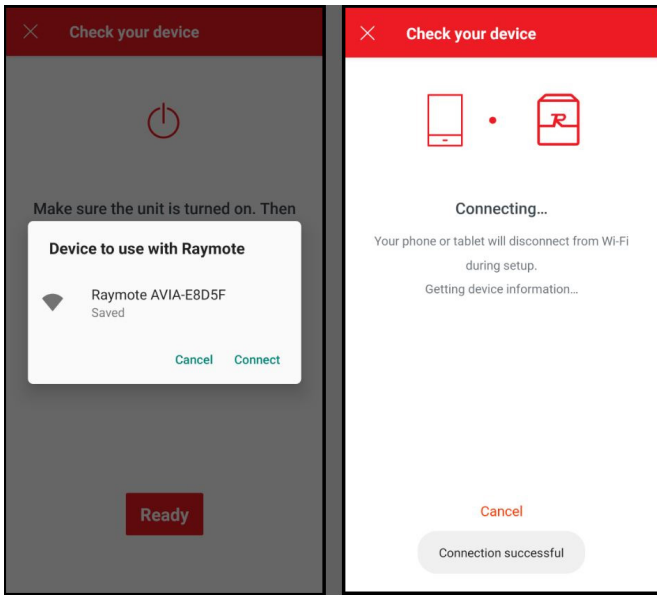

Figure 84. Connecting
- You may be prompted to confirm selected heater. Wait a few seconds while the Raymote app connects to your heater as shown in **Figure 84**.